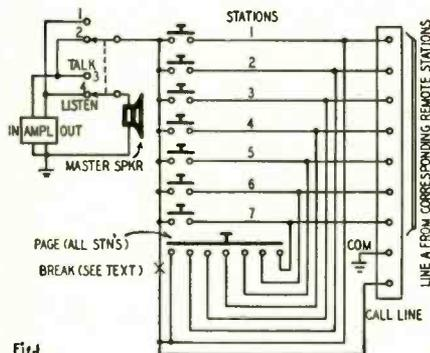
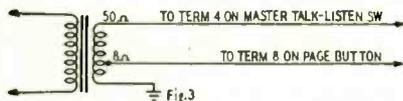

Fig. 1
Fig. 3
A. Fig. 1 shows the switching circuits
ondary tapped at 8 ohms. In this case, break the connection at X in Fig. 1 and wire the transformer as in Fig. 3 so that the 8-ohm voice-coil tap connects to terminal 1 on the PAGE button. (The line "to term. 8 on page button" in diagram above is incorrect. Use an input transformer with 50-ohm secondary.